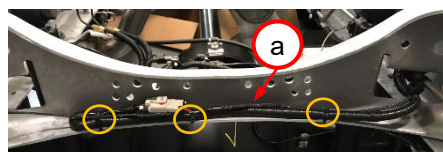

Figure 21.
14. Secure excess OEM chassis harness/ chassis harness bundle (a) to crossmember using zip ties (circled). *Figure 21*